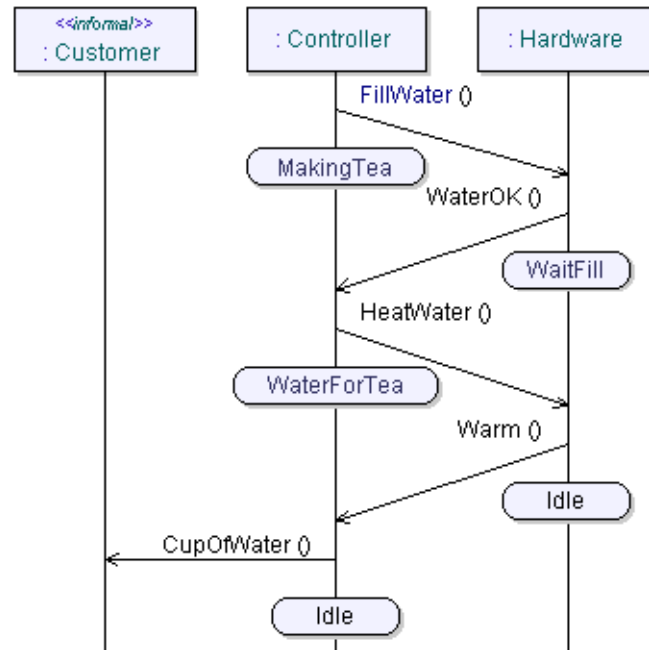

Figure 21: Sequence diagram TeaMaking
3. Edit the sequence diagram to look like Figure 21 on page 44. Drag the appropriate classes from the Model View of the CMdesign package to the lifeline headings. Remove the signals Coin and Tea. (These are specified in the scenario MakeTea, see Figure 12 on page 22.) Check that all states and signals have bound to the model.